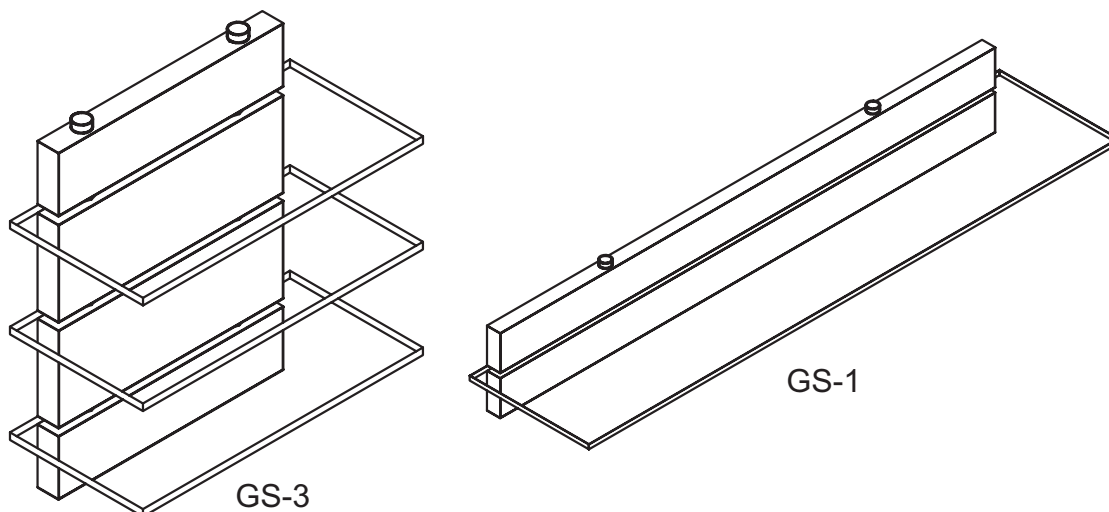

Figure 19a
Assemble GS-1 by placing Glass between the Shelf Panels and use Allen Wrenches to tighten the Panels to clamp the Glass into place (see Figure 19a).
Assemble GS-3 by placing (3) pieces of Glass between the Shelf Panels and use Allen Wrenches to tighten the Panels to clamp the Glass into place (see Figure 19a).